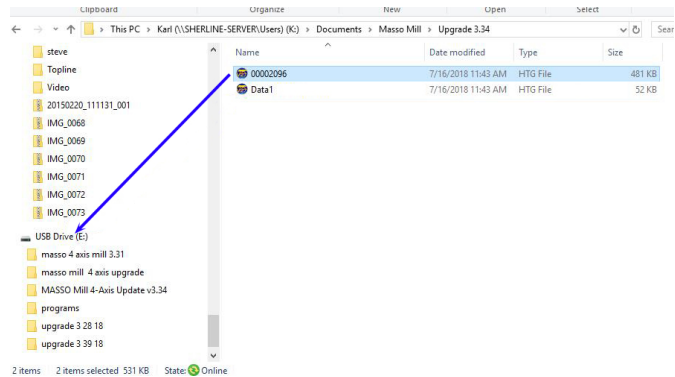

FIGURE 5—The blue arrow indicates the files to move onto the flash drive.
3. Load both the 00002096 and Data1 files onto the flash drive Main Directory. Do not load them into a folder on the flash drive or the control will not read them (see Figure 5).